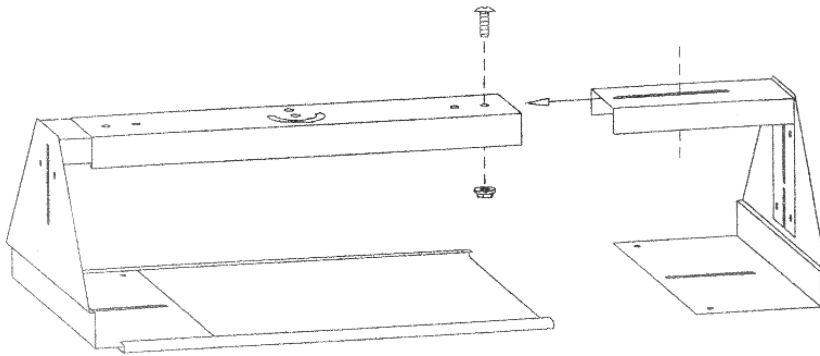

Figure 4. End Plate To Outer Channel
4. Slide the other end plate assembly into the outer channel and the security bracket, aligning the slot with one of the holes, and **loosely** attach using two ¼-20 X 5/8” combination screws and ¼-20 hex flange nuts as shown in Figure 4.